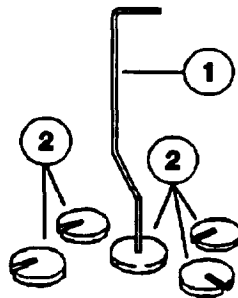

Figure 6-35. Test Fixture
6-17. TRIGGER PULL TEST (Figures 6-35 and 6-36)a. Testing Trigger Pull
(2) Place the test fixture (1), Figure 6-35, on the work bench and add test weights (2) until minimum load of 4.5 pounds is reached. A *scale-type* measuring device may also be used for the trigger pull test.